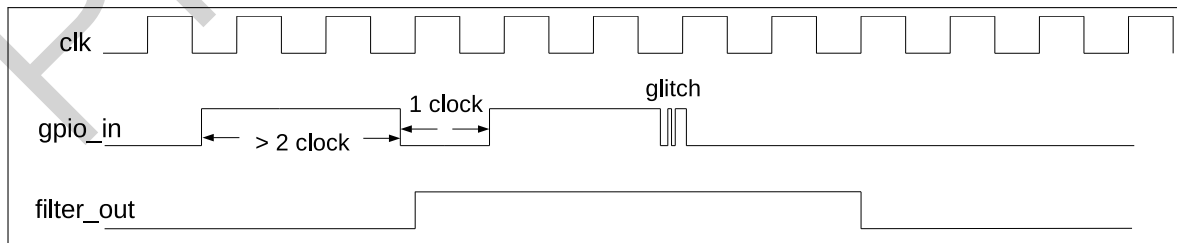

Figure 5-5. Filter Timing of GPIO Input Signals
2. Optionally enable the filter for pin input signals by setting the register `IO_MUX_GPIO n _FILTER_EN`. Only the signals with a valid width of more than two clock cycles can be sampled, see Figure 5-5.